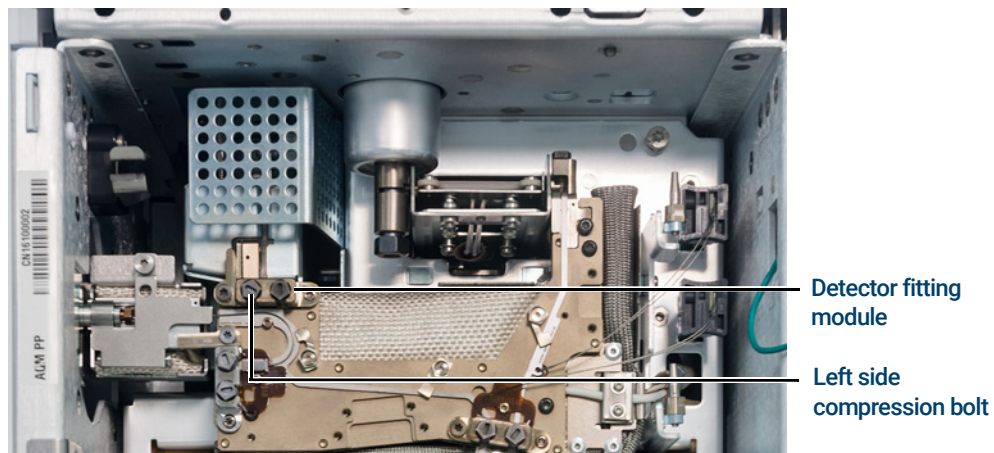

Figure 3. GC detector fitting module and left side compression bolt
- c Use the Intuvo torque driver to remove the left side compression bolt from the detector fitting module. See **Figure 3**.